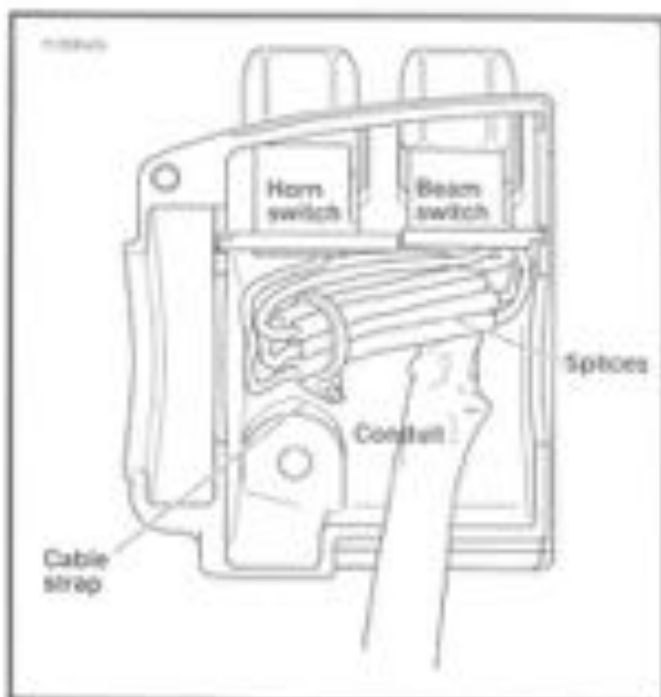

Figure 7-82. Upper Left Handlebar Switch Housing (With Splices)
6. Loop switch wires so that spliced lengths are positioned as shown in Figure 7-82. Route wires downstream of splices beneath wing on high/low beam switch side of bracket as seen in Figure 7-81.